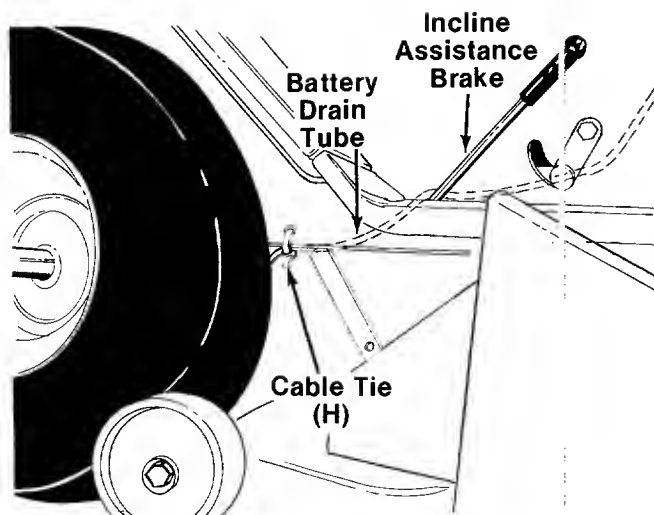

FIGURE 11.
11. Route the battery drain tube toward the back of the unit, over the shaft on the incline assistance brake and inside the deck links. See figure 11.
12. Secure drain tube to hole in the side of frame with cable tie (H) as shown in figure 11. Cut off excess end of cable tie. Be certain tube is routed away from wheel rim.